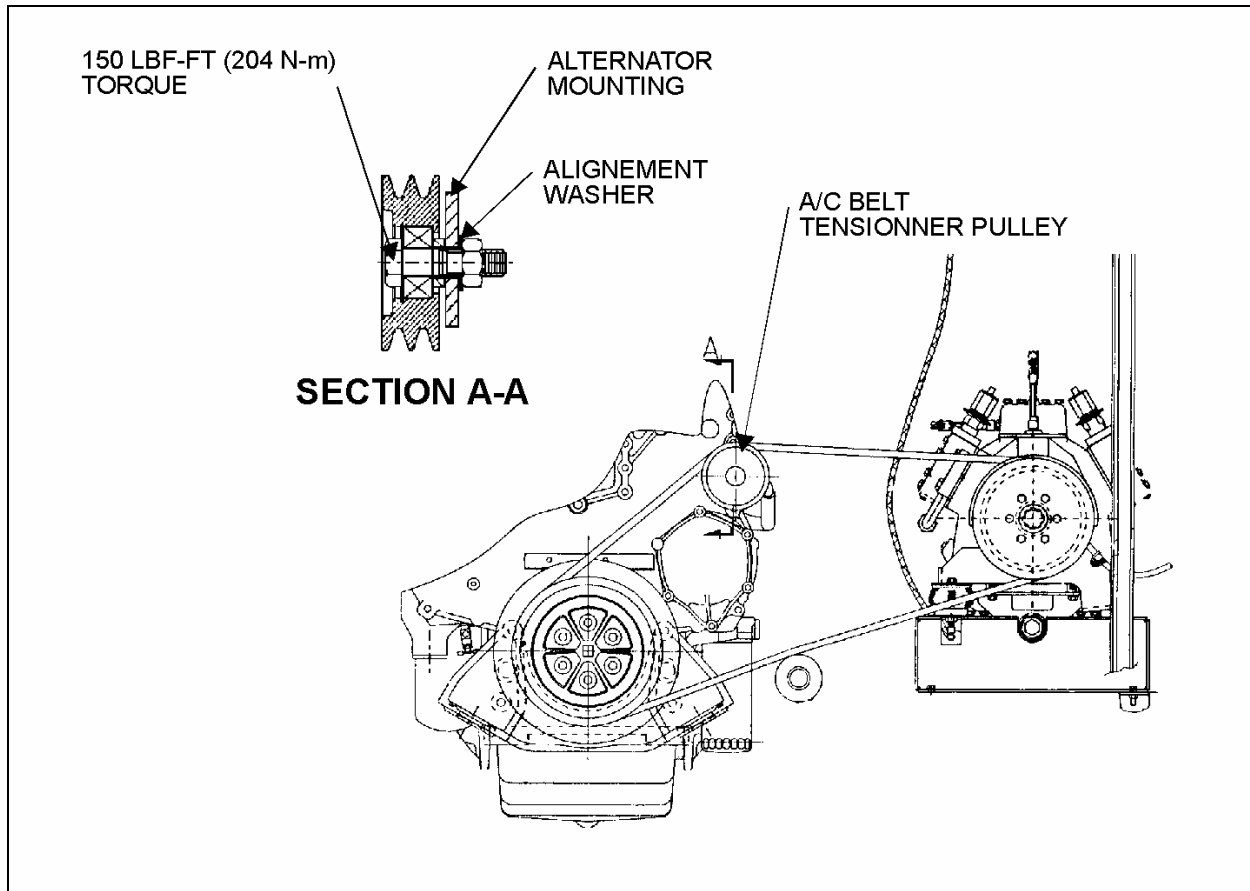

FIGURE 2: ENGINE AND COMPRESSOR
3. Remove nut from belt tensionner pulley bolt (Fig. 2).
4. If applicable, remove old alignment washer (Fig. 2).
5. Install a new alignment washer (Prevost number 452276) (Fig. 2).
6. Install nut and torque belt tensionner pulley bolt to 150 lbf-ft (204 N-m) (Fig. 2).